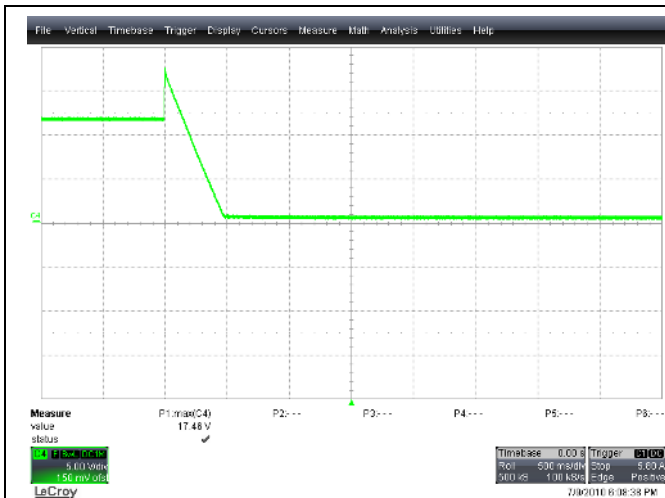

Figure 41 - Latching VS3 Over Voltage Protection (set to 17.5V)
B. **Over Voltage Protection (OVP):** Figure 41 and Figure 42 show latching and hysteretic OVP respectively.